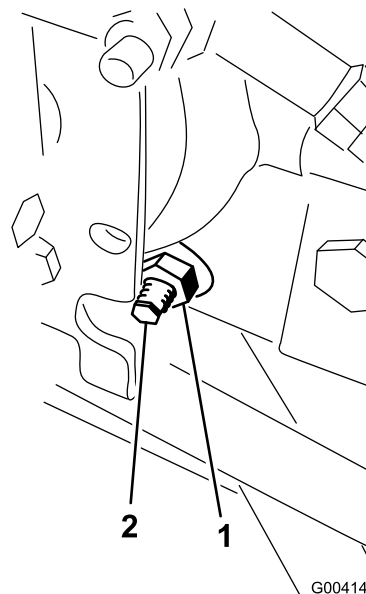

Figure 82
3. On the right side of the hydrostat, loosen the locknut on the traction-adjustment cam (Figure 82).